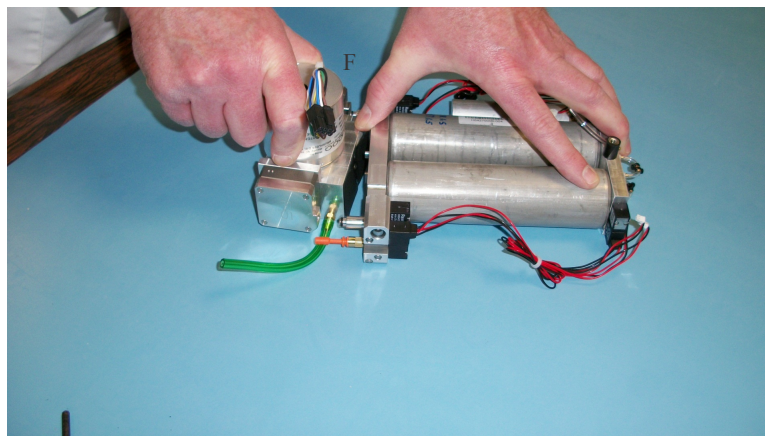

Figure 5.19
2. Remove the compressor by pulling the compressor away from the PSA assembly. Care should be taken not to separate manifold from beds. (See Figure 5.19)